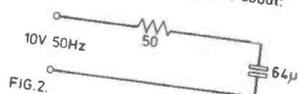

FIG. 2.
- In Fig. 2 the voltage across the capacitor will be about:
Fig. 2 shows a right-angled triangle whose sides AB and AC are drawn to represent areas C and B. The side BC then represents the maximum area A. This can be obtained by using Pythagoras (that Greek chap — remember?) Thus: